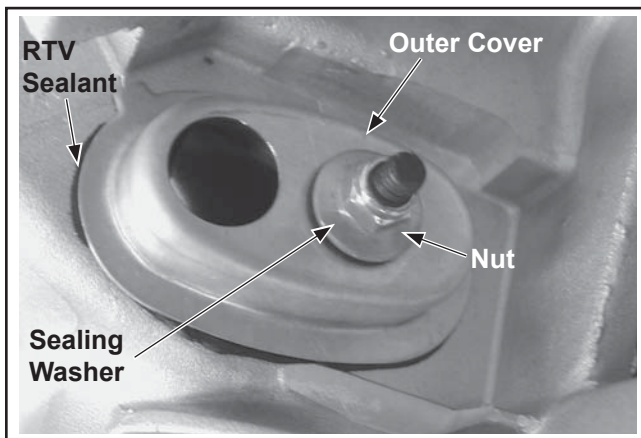

Figure 10-30. Installed Breather Cover and RTV Details.
4. Secure with a new sealing washer and the M5 hex nut. Torque the hex nut to **1.3 N·m (12 in. lb.)**. Check that a complete seal has occurred by the RTV sealant being squeezed out around the entire flange perimeter. See Figure 10-30.